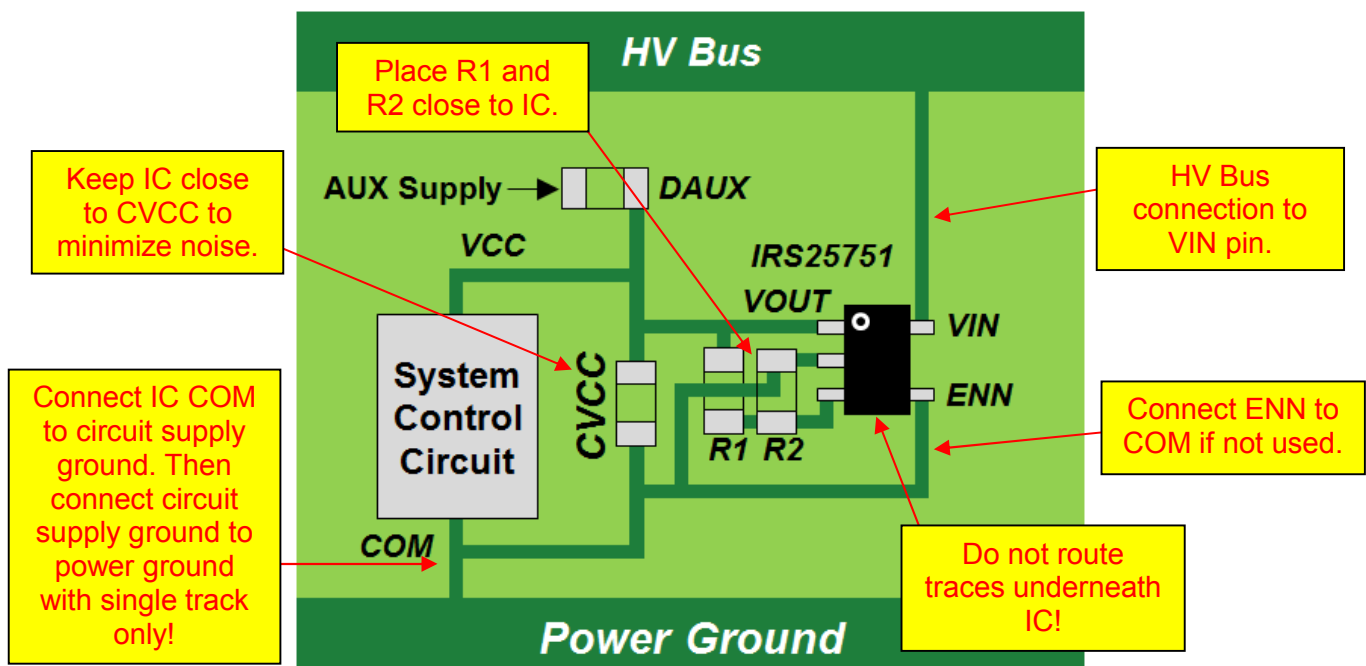

Figure 6: IRS25751 surface-mount PCB layout example (Bottom View).
- 6) See **Figure 6** for surface mount pcb layout guidelines.